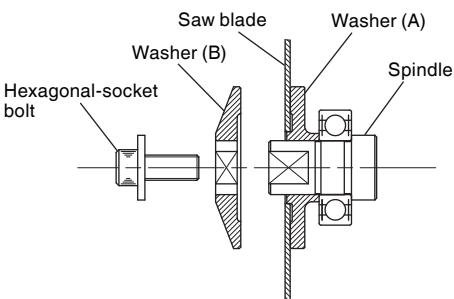

Fig. 8-1
- (1) Thoroughly remove any sawdust which has accumulated on the spindle, bolt and washers.
- (2) For saw blades with hole diameters of 20 mm and 30 mm, as shown in **Fig. 8-1**, the side of Washer (A) with the projected center the same diameter as the inner diameter of the saw blade and the concave side of Washer (B) must be fitted to the saw blade sides.